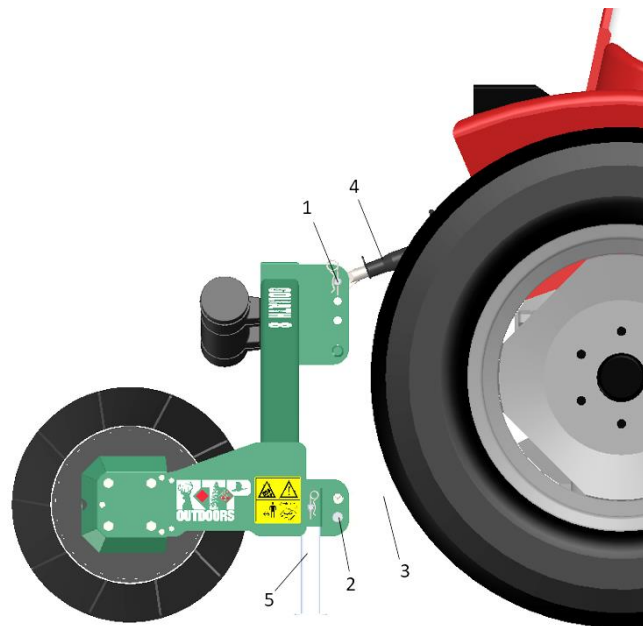

Fig. 3
1. Remove the 3-point pins (**1 and 2**) from the machine (see Fig. 3).
The machine should be detached in the following manner (see Fig. 3):